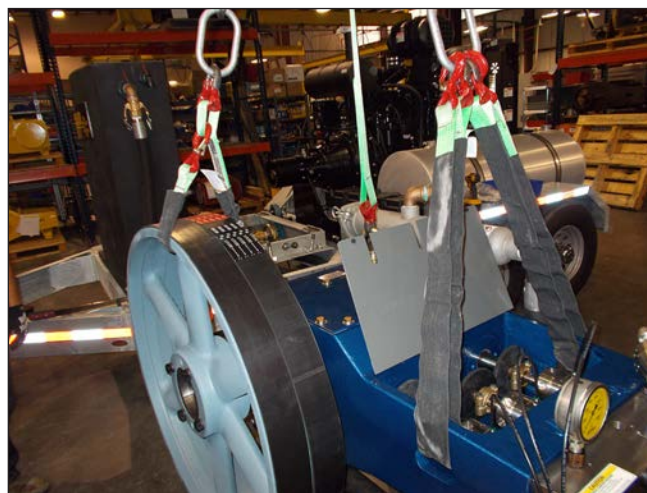

Figure 174: Lifting the Pump.
8. Attach a hoist and lifting apparatus to the pump as shown in (Figure 174). The weight of the pump is approximately: